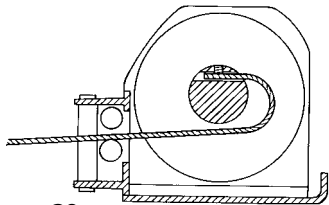

Figure 20
**Always replace damaged wire rope with manufacturer's identical replacement part** (see Replacement Parts list). Pass attaching end of wire rope through the fairlead (if equipped) and attach it to the drum. When inserting the wire rope into the drum, insert it into the correct end of the hole provided (Figure 20). Tighten the set screw securely.